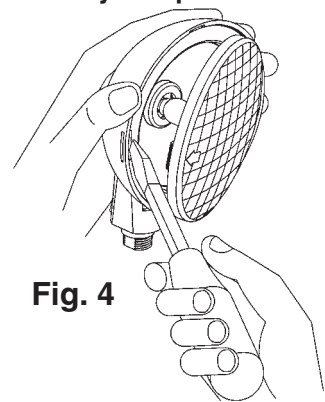

Fig. 4
1. Remove diffuser lens from lamp housing by prying lens adjacent to tab slot (see Fig.4)